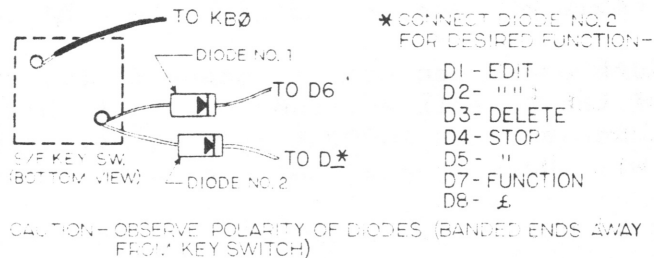
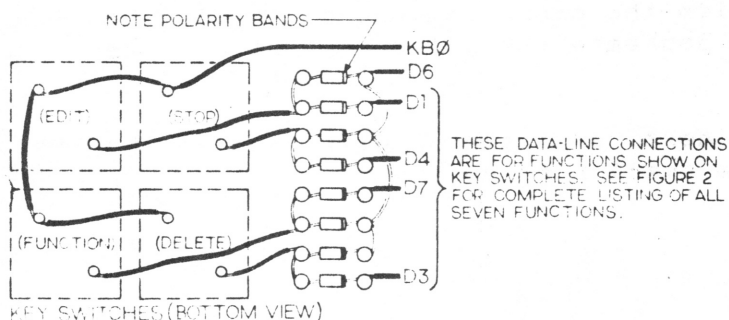

Figure 1. Single-Key Shifted Function Using Diodes
Figure 2. Typical Diode Circuit Wiring
Figure 1, shows a Shifted-Function (S/F) key using the diode circuit. The figure also lists the seven functions for which it can be used. The desired function is determined by the selected data line on the keyboard to which Diode No. 2 is connected. This same circuit, using four "typical" keys, is shown in Figure 2.
**DIODE CIRCUITS.** For any of the first seven functions listed in Table 1, you will certainly want to use the diode method, and save the IC's for the other 32 functions. If you wish, you can run the diodes directly to the data lines as shown in Figure 1, covering the entire "string" with insulated sleeving. However, especially if you have several keys that use the diode circuit, the layout shown in Figure 2 will be much neater. The diodes will take up very little space on any mounting board.